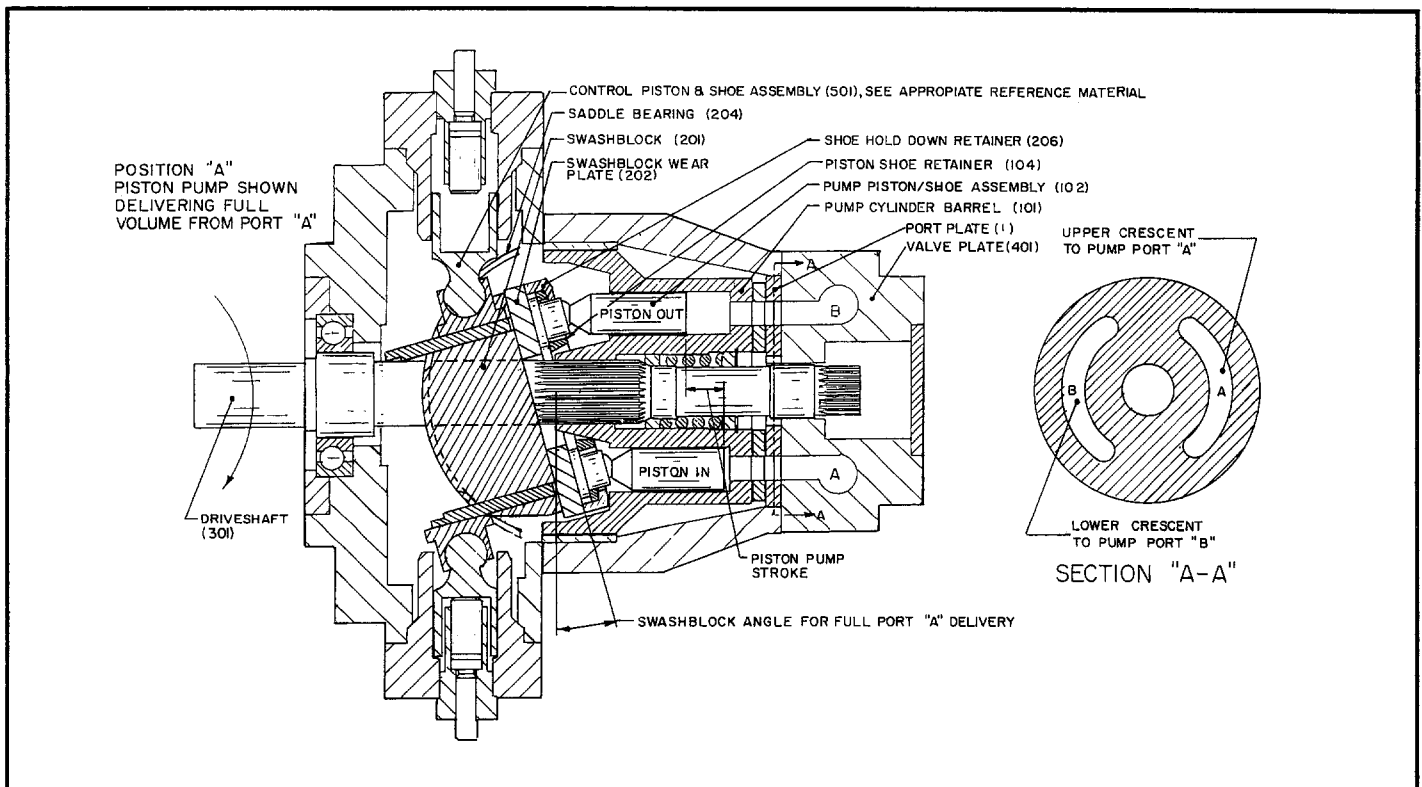

Figure 2. Position "A" (5V-12110-L)
SEE FIGURE 2. POSITION A. Rotating driveshaft (301) clockwise turns the splined pump cylinder barrel (101) which contains the pumping pistons (102). A piston shoe retainer (104) and a shoe hold down retainer (206) holds the piston shoes against the swashblock wear plate (202). When the cylinder barrel is rotated, the pistons moves in and out of their bores as the shoes "ride" against the angled swashblock wear plate.